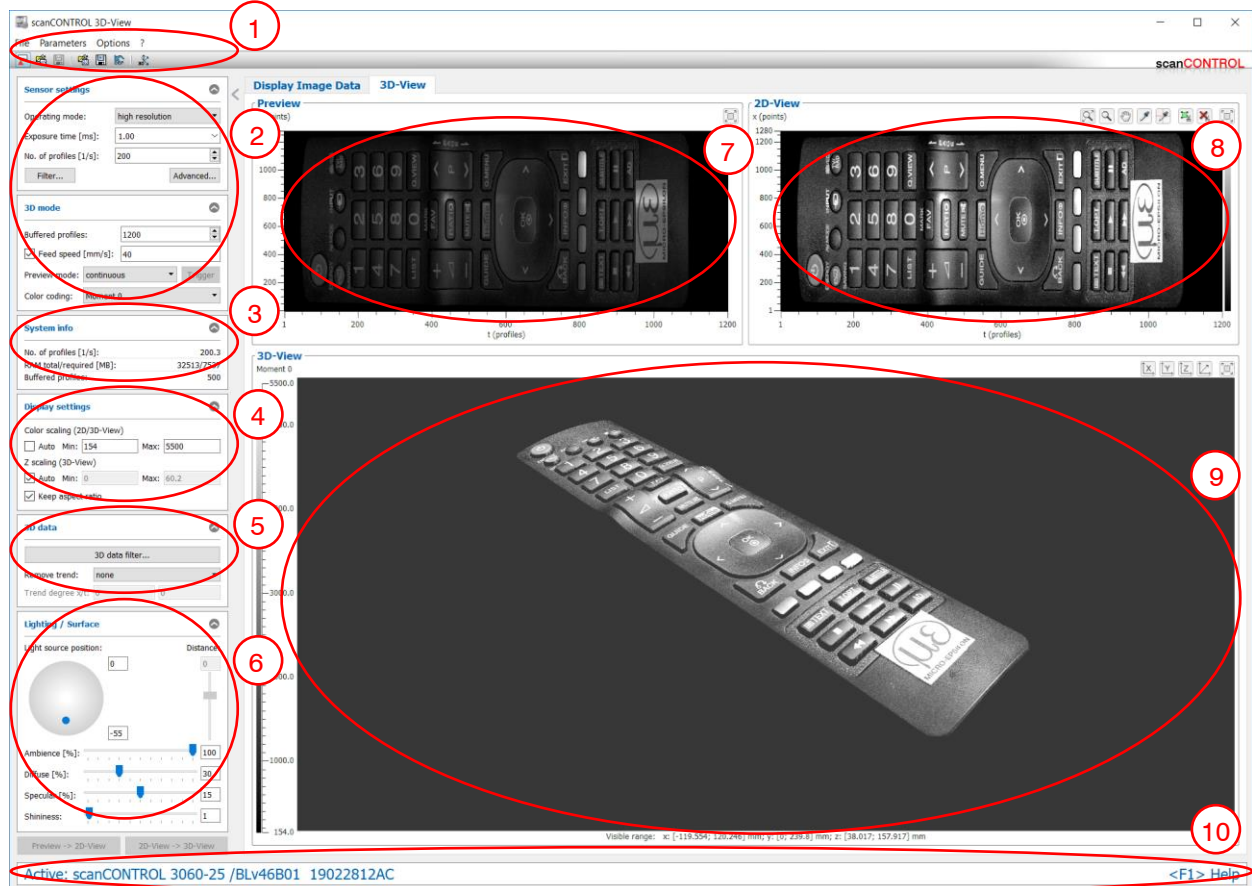

Fig. 3.1: Main view
After you have started the program, the main view of scanCONTROL 3D-View appears (see Fig. 3.1).
In the upper section of the main view you will find the menu bar and the toolbar (see Fig. 3.1, ①) which you can use for activating various dialog boxes of settings and views (see Chapter 3.19).
In the upper left section of the main view (see Fig. 3.1 ②), depending on the operation mode (online/offline mode), you can either change settings on the scanCONTROL measurement system, or visualize previously saved profile sequences (refer also to Chapter 3.4 or 3.5). Below the "3D mode" box there is an information field ③, in which the current system status is shown (see Chapter 5.3). In the lower left section you configure the settings for the display (refer also to Chapter 3.8). In section ⑤ you can change the settings for filtering the 3D data and for removing a trend (see Chapter 3.9). Section ⑥ contains the settings for the lighting and surface properties of the 3D display (see Chapter 3.10). In the right section there are the preview window ⑦ (see Chapter 3.8), the 2D-View ⑧ (see Chapter 3.13) and the 3D-View ⑨ (see Chapter 3.14).
In the lower section of the main view there is the status line (see Fig. 3.1, ⑩). Status and error messages are displayed. For a complete list of the possible messages please refer to Chapter 5.3.